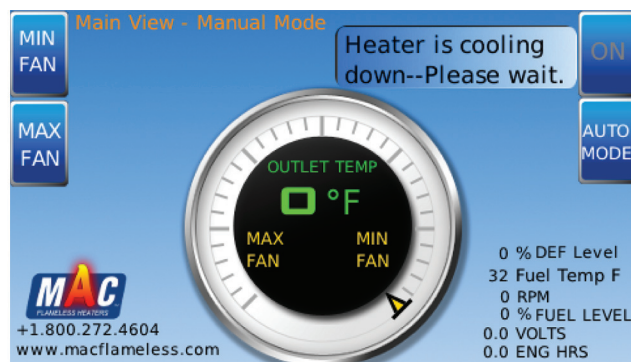

Figure 3-8. Heater Cooling
- Press OFF to stop the heater (**Figure 3-7**, item C). Heater automatically turns off and the engine begins cooling down (**Figure 3-8**).